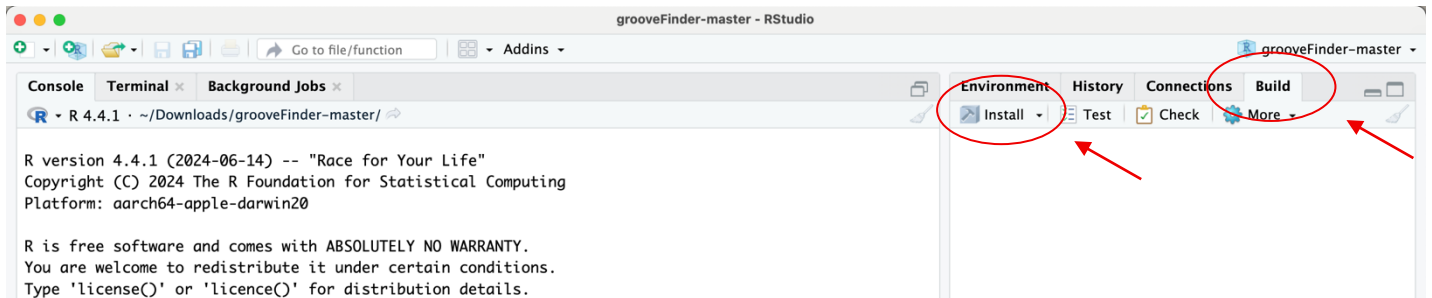

Figure 7. Click Build. Then click Install to install grooveFinder.
- Open the Build tab and click Install to install grooveFinder. (Figure 7)
• Figure 7